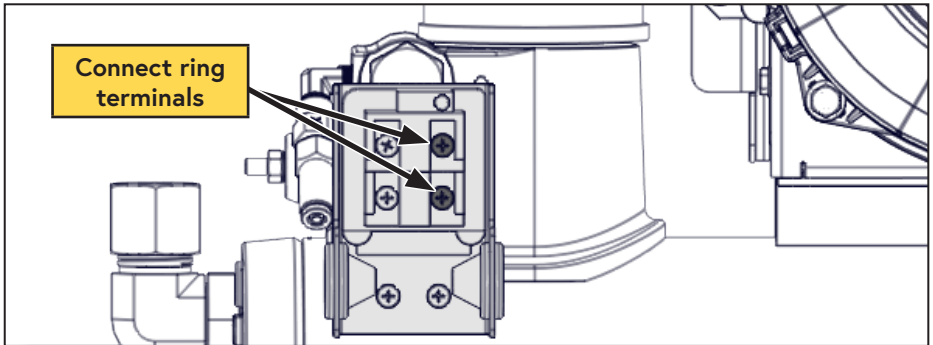

Figure 36 — Connect pressure switch
- Remove the cover from the WHASP Tank pressure switch and connect the 2 ring terminals from the control module to the pressure switch on the WHASP Tank (not polarity dependent) (Figure 36).